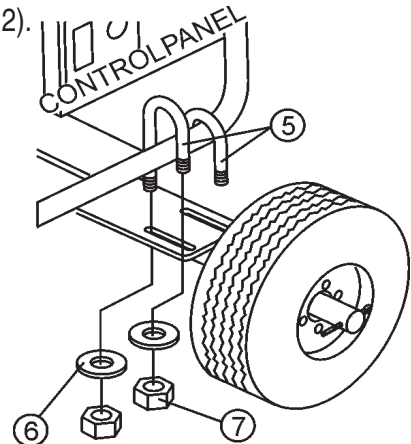

Figure 2. Securing the Generator Axle
2. Place the Generator Axle under the heaviest end of the generator. Insert the U-bolts over the pipe frame and through the axle. Place a washer and nut on the U-bolt ends and tighten until the axle is secured to the pipe frame (Figure 2).